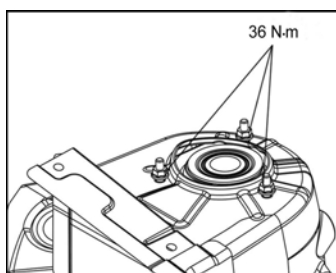

Fig. 2-21
② Dismantle the front shock damper with coil spring, and then the 3 nuts on the suspension bracket according to Fig. 2-21.